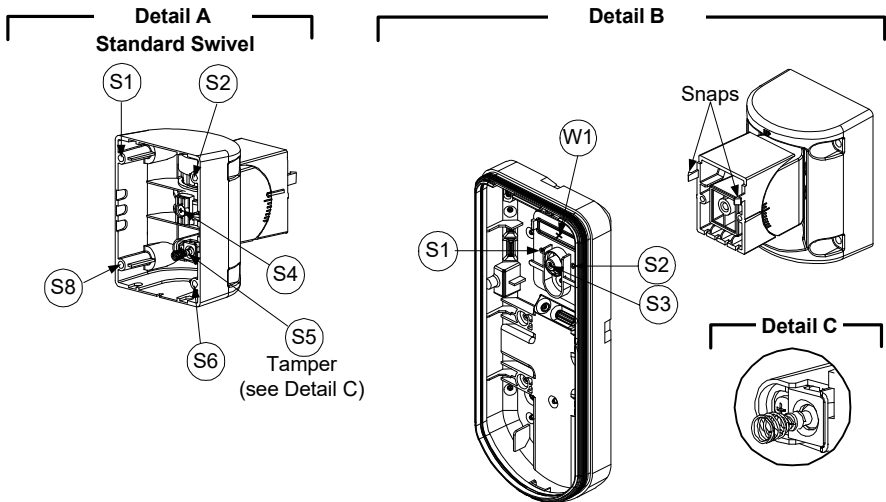

Figure 8
3. Remove back tamper from the internal base (see the "Changing Back Tamper Position" paragraph on page 7) and connect it to S5 (Figure 8, Detail A) on the Standard Swivel.
1. Insert back tamper wires through the Swivel Wires Passage (Figure 8, Detail B).